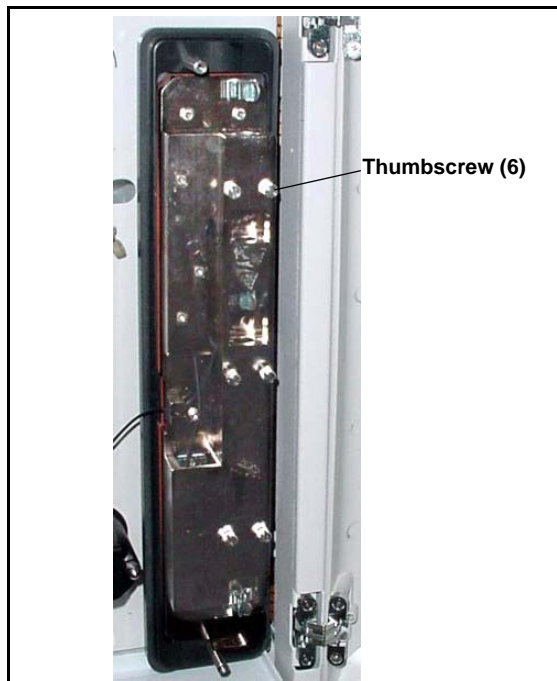

Figure B-19. ICS-1000 Column Heater Cover Removed
4. Unscrew the six thumbscrews on the top metal plate (see Figure B-19) and remove the plate.